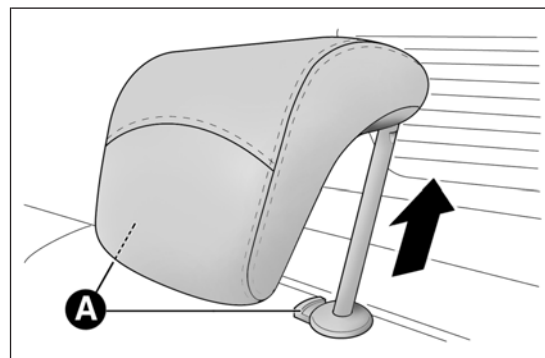

fig. 64
- ☐ raise the head restraints to the maximum height, press both the buttons A fig. 64 to the side of the two supports, then remove the head restraints by sliding them upwards;